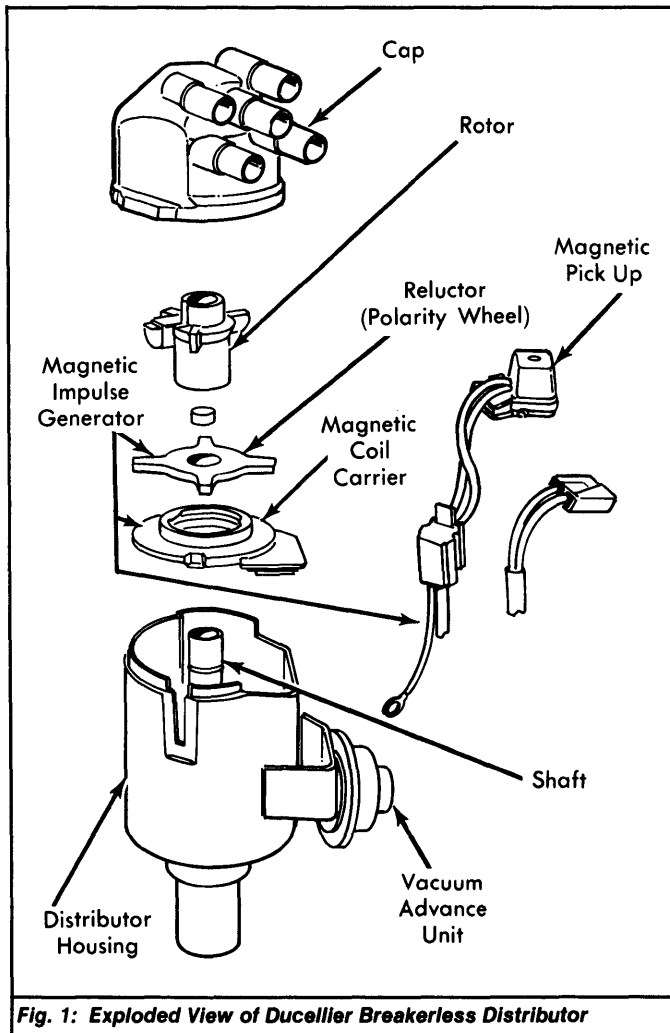

Fig. 1: Exploded View of Ducellier Breakerless Distributor
The distributor contains both centrifugal and vacuum advance mechanisms, a pick-up coil and a reluctor (polarity wheel). See Fig. 1. The ignition coil and amplifier are both mounted to a common light alloy base that provides both good grounding and cooling of the amplifier module. Silicone grease, which comes with the module and is applied between the module and base, gives improved heat transfer. Since both units are grounded through the common base, all mounting bolts should be snug.
1) Remove distributor cap, rotor, and plastic protector. Remove screw side of distributor. Pull upward on electrical connector to remove it from distributor housing. Remove 2 screws securing magnetic pick-up coil. See Fig. 1.